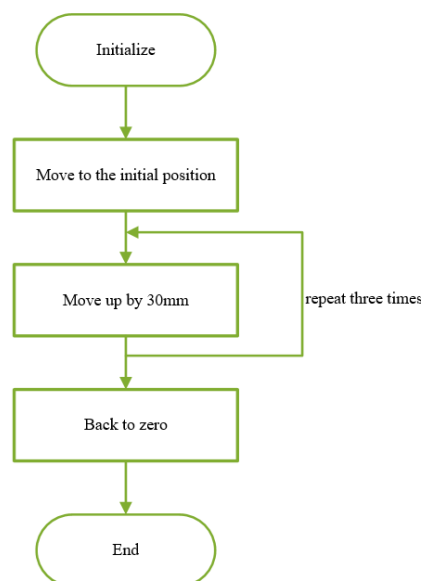

Figure 2.1 Flowchart of repeating upward movement
(1) Prepare Hardware
(2) Design Program
Step 1: According to your observation, read the flowchart of moving upward three times by the robotic arm, as shown in Figure 2.1.